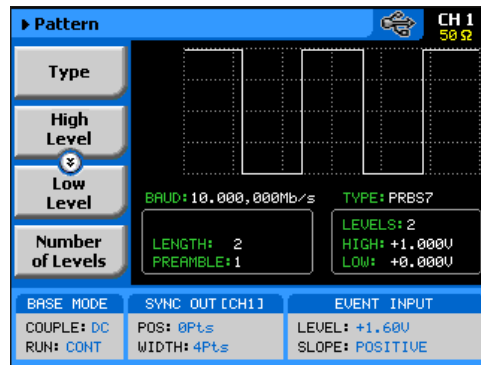

Figure 3-64, Pattern Menus
4. **Negative.** This option is very useful when you want to vary the negative position of the pulse, but hold the high level fixed at the 0 V level. The example in Figure 3-64 shows the low level set at -1 V and the high level fixed at 0 V. Modification of the low level will not alter the high level position.
To access the PRBS generator menus, press on the Pulse button in the Function group, scroll down the menus and push the Pattern button. The display will be modified to show pattern parameters, as shown in Figure 3-64.
When PRBS mode option has been selected, the main Pattern tabs, as shown in Figure 3-64, will allow access to the following parameters: